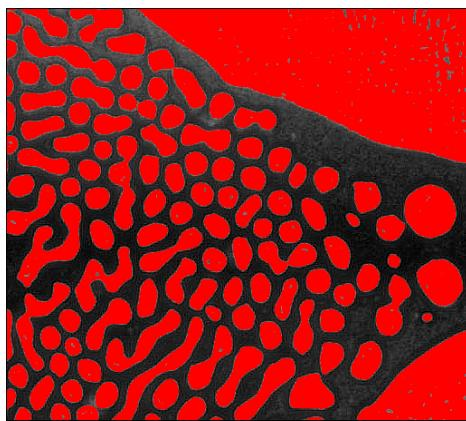

Figure 3-7. Testing the Particle Analysis Script
5. Double-click the Threshold step in the script window to open the Threshold Setup window. Figure 3-7 shows Metal3.jpg at the thresholding step of the script.